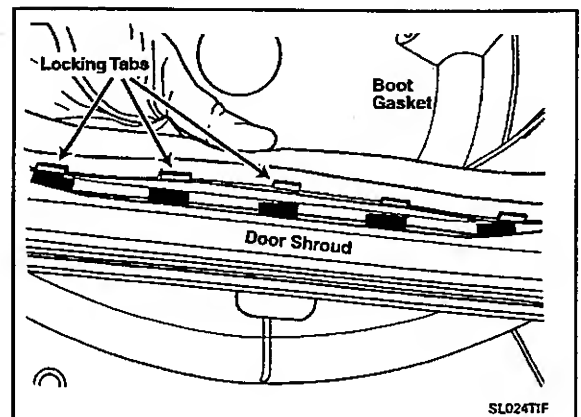

Figure 7-1
6. Unsnap the locking tabs of the door boot around the inside perimeter of the door shroud (*Figure 7-1*).